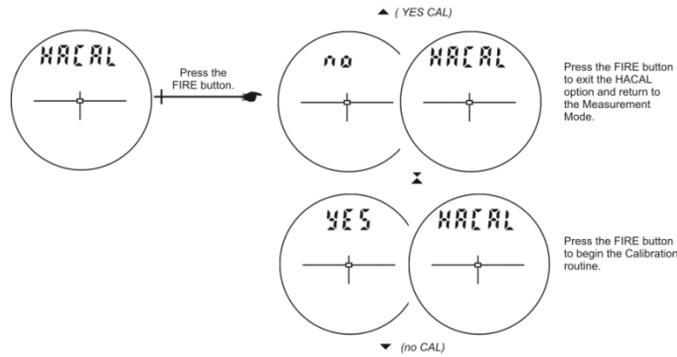

Figure 4. The TruPulse viewfinder during the compass calibration procedure.
5. **dECLn** is displayed. Press ▼ to display the **HACAL** option, then press “Power/Fire” again (**Figure 4**).